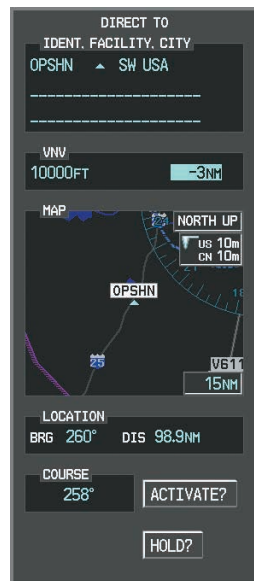

Figure 5-129 Enter VNV Offset Distance
f) Press the **ENT** Key. The cursor is now displayed in the VNV offset field as shown in Figure 5-129.